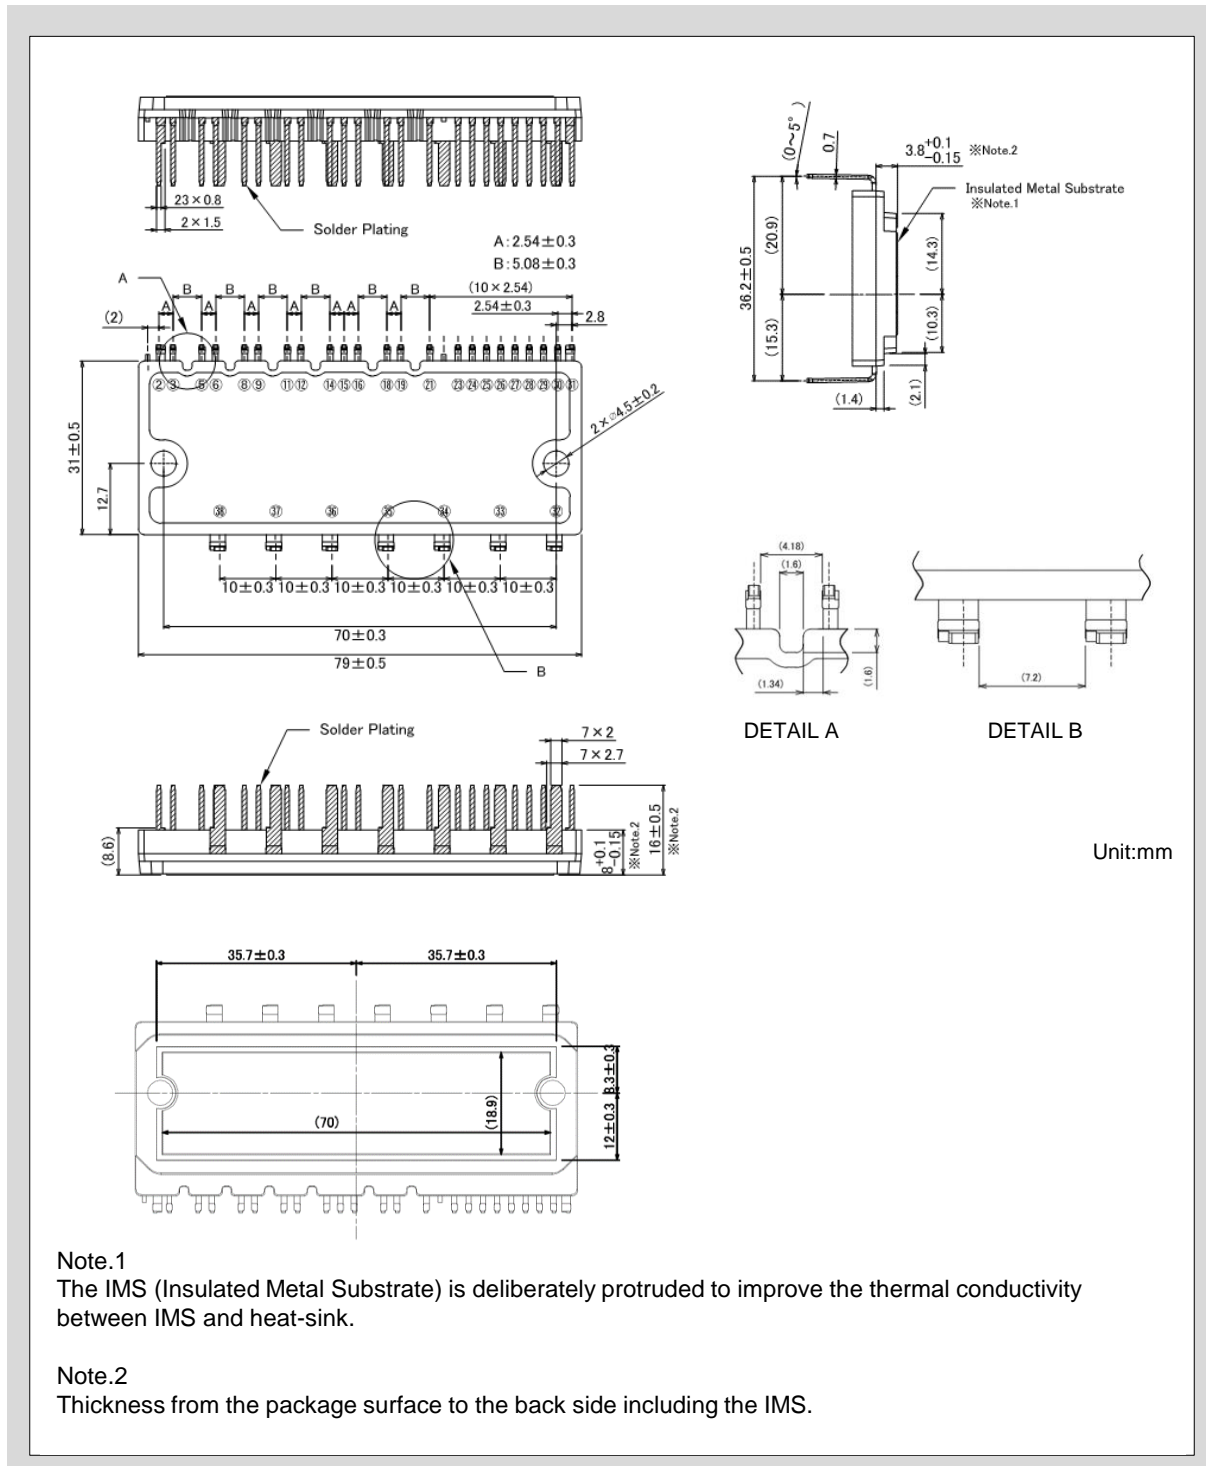

Fig. 1-5 Case outline drawing
- Fig.1-5 shows the waveforms during short-circuit, IGBT turn-off and FWD reverse recovery. Since $V_{DC(Surge, terminal)}$ is different in each situation, it is necessary to set $V_{DC(terminal)}$ considering these situations.